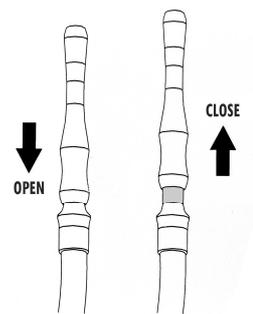

Figure 1
1). To open the valve, slide the body and the base together. To close the valve, slide them apart (Figure 1). The valve remains closed when hung by the body.